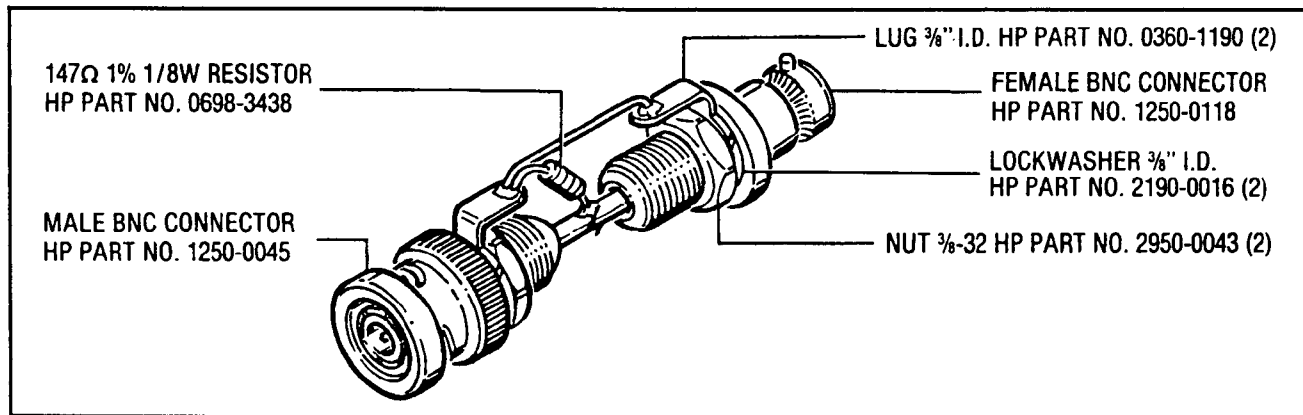
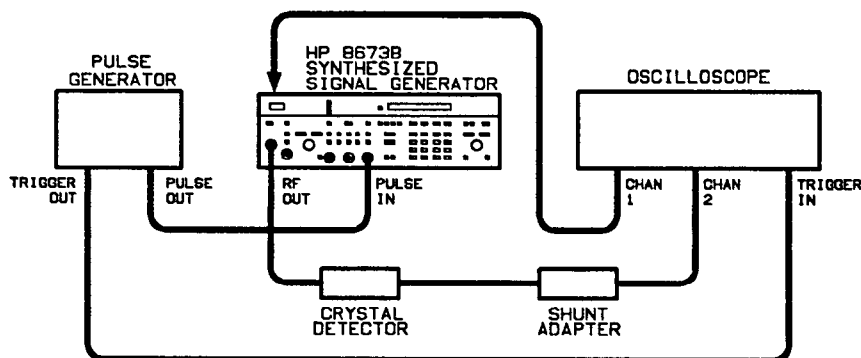

Figure 5-36. Pulse Shunt Adapter
Figure 5-37. ALC Sample Pulse Adjustment Test Setup
Shunt Adapter	Fabricated Locally (see figure 5-36)
6. Connect channel 2 to the shunt adapter (figure 5-36) output as shown in figure 5-37. The cable between the oscilloscope and the shunt adapter must not be longer than 24 inches.
The shunt adapter can easily be fabricated using 2 BNC connectors and a 147 ohm resistor as shown in figure 5-36.
(see figure 5-36)